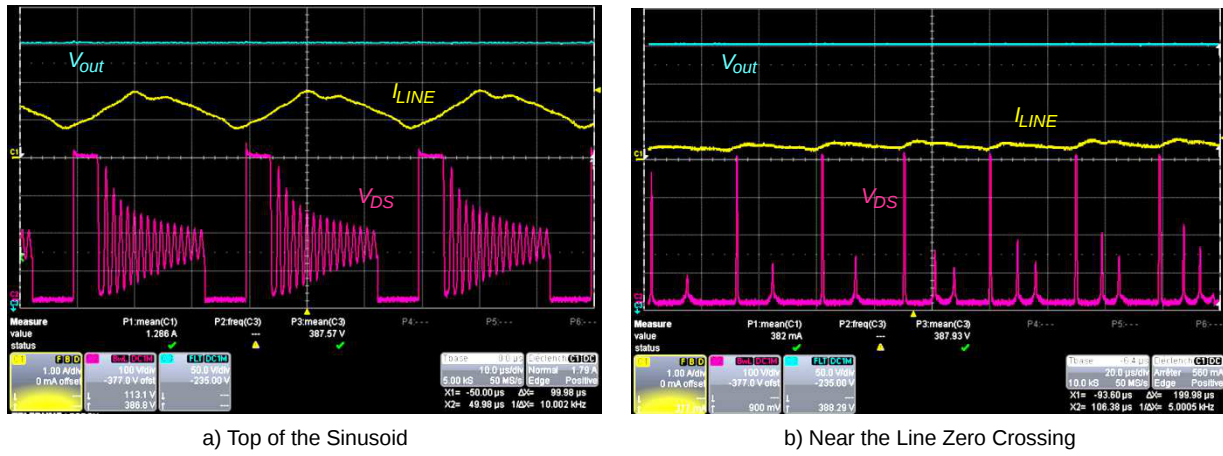

Figure 6. Low Frequency Operation at 115 V rms, 20% Load
- At 20% load, the NCP1655 frequency foldback makes the PFC stage operate at nearly 30 kHz. Note that the circuit continues turning on at the valley and that the number of valleys depends on the line instantaneous voltage. For instance, the number of skipped valleys is high at the top of the sinusoid where the resonant period is short while turn on in the second valley is obtained at the line zero crossing where the resonant period is long. See Figure 6. However, the NCP1655 always turns on at the valley as long as valleys are detectable.